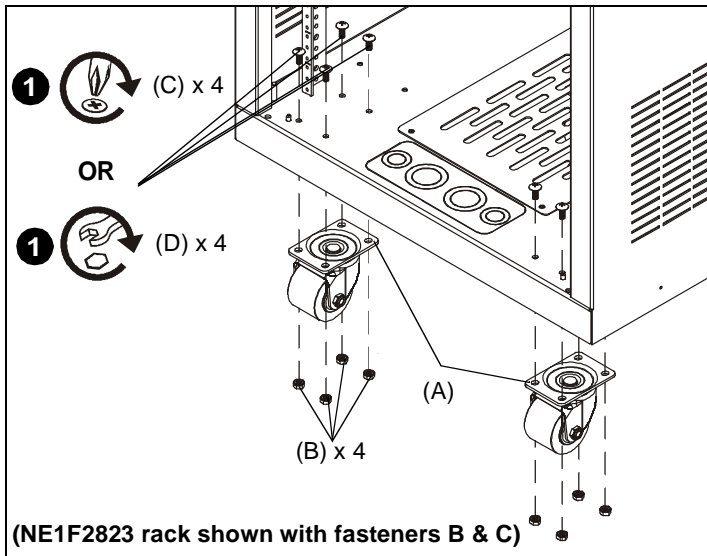

Figure 1
1. Attach a caster (A) to each lower corner of the E1 rack using four 1/4-20 x 5/8" Phillips truss head machine screws (C) [OR four 1/4-20 x 1/2" hex head cap screws (D)] and four 1/4-20 lock nuts (B) for each caster. (See Figure 1)